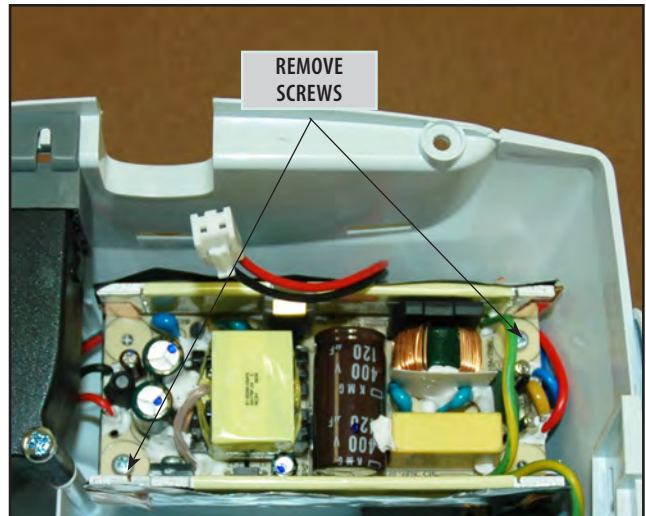

FIGURE 6.6
2. Using the # 1 Phillips Screwdriver, remove the two screws securing the Power Supply to the system Bottom. See Figure 6.6.